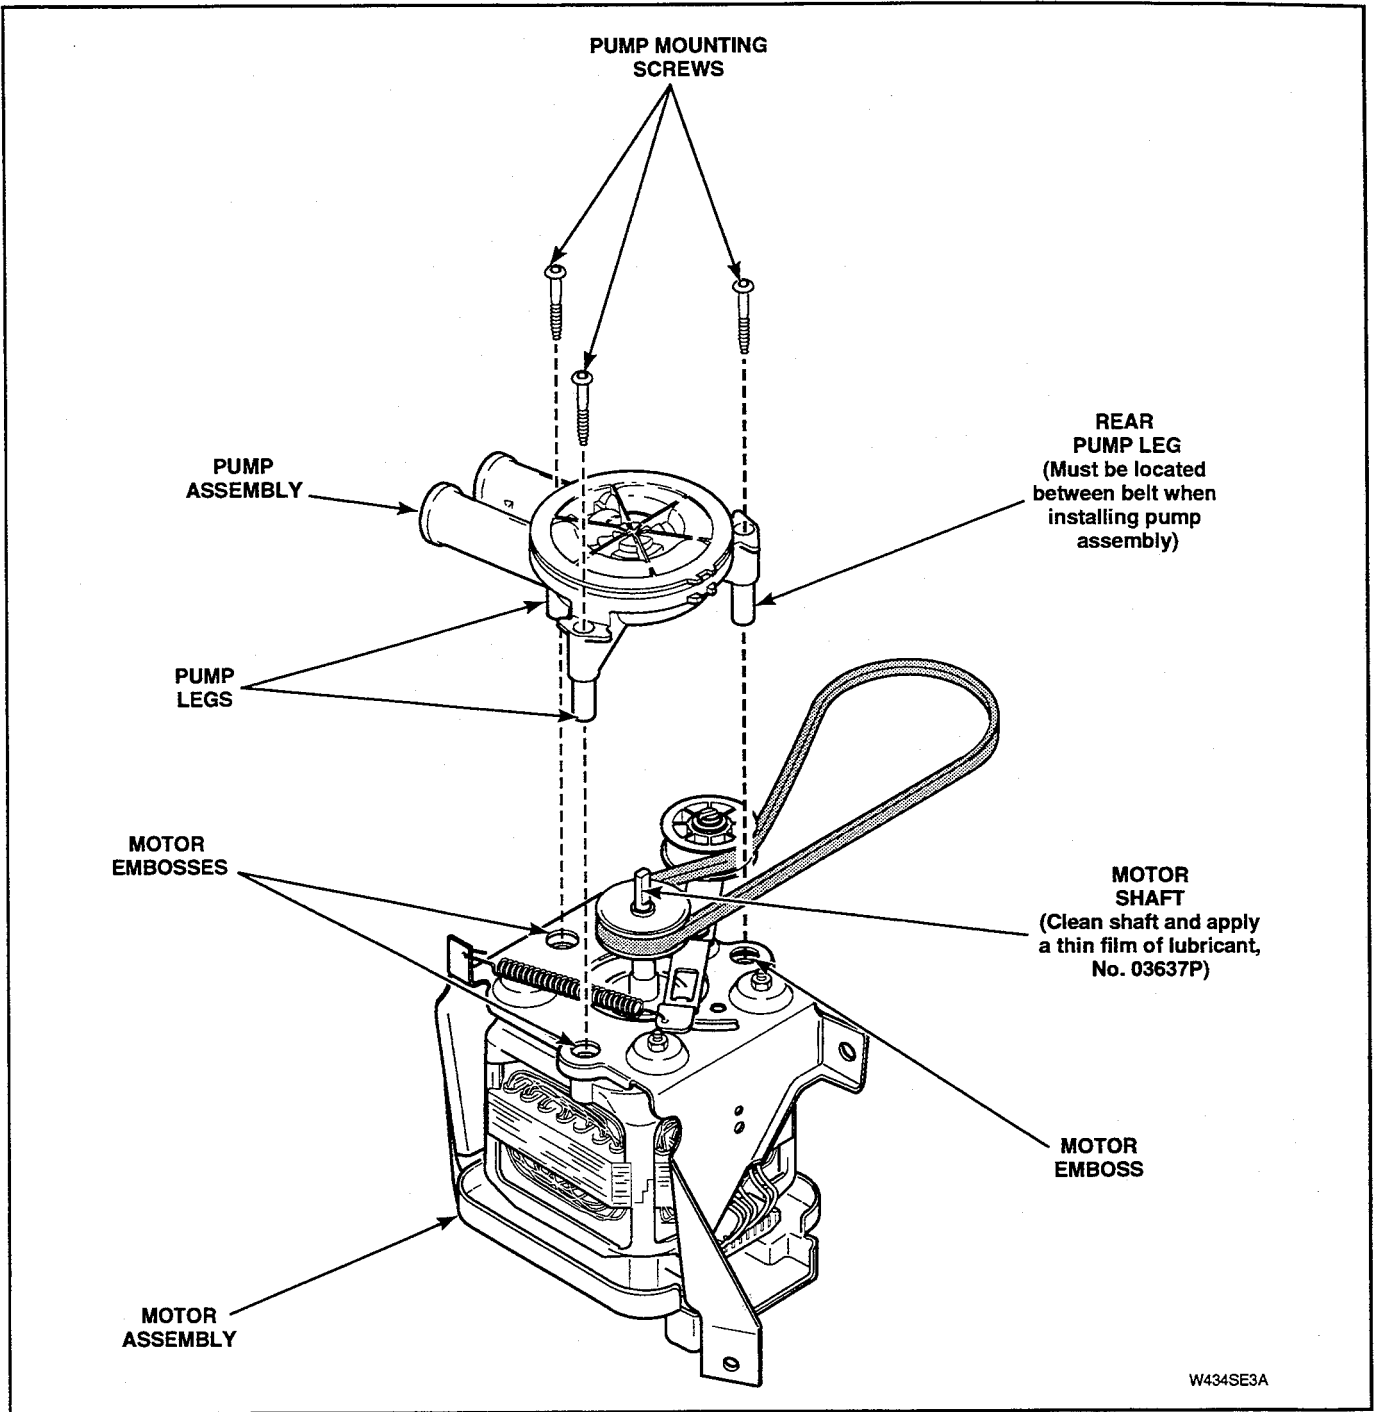

Figure 5-18
IMPORTANT: Carefully lay motor on its side. Observe belt configuration around rear pump leg. Belt **MUST** encircle rear pump leg when reassembling. See Figure 5-18.
- a. Remove three screws holding pump assembly to motor. See Figure 5-18.
- c. Align pump impeller hub with motor shaft. Make sure belt encircles rear pump leg, carefully push pump onto motor shaft so three pump legs bottom out in the embosses on motor housing before screws are tightened. See Figure 5-18.